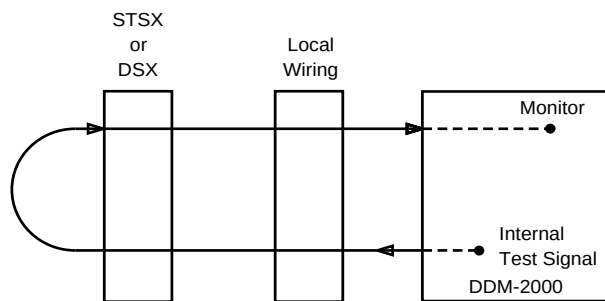

Figure 9-19. Local Wiring Cross-Connect Test
2. **Local Wiring Cross-Connect Test** — The local wiring cross-connect test verifies the integrity of the cross-connect or wiring that is established. This assumes local equipment tests have been performed and any problems or failures have been corrected before this test is done. In the test, all low-speed signals are looped back (manual loopbacks at the STSX or DSX, see Figure 9-19).